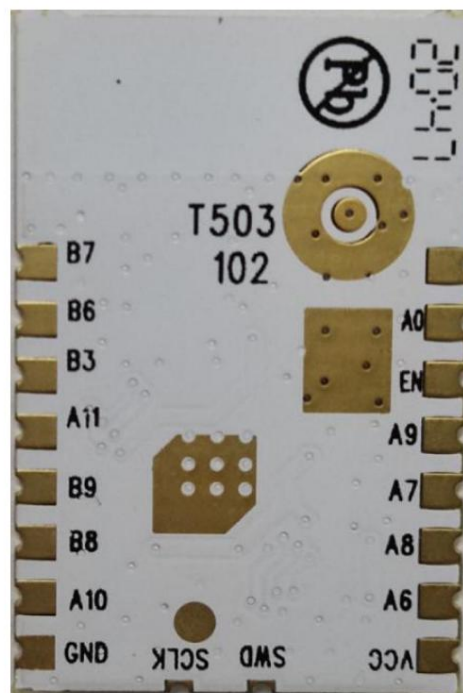

Figure 2 T503| Rear view
T503 dimensions: 16mm (W) × 24mm (L) × 0.8mm (H). T503 pin definition is shown in Figure 2: